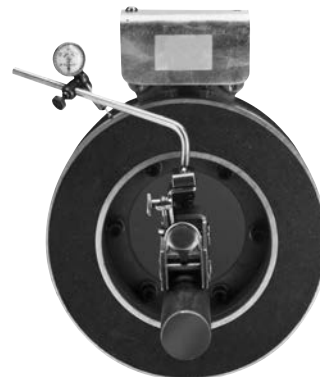

Figure 3
4. After assembly, the magnet must be concentric and square within the required tolerances listed on the illustration drawing. (See Figure 3.)